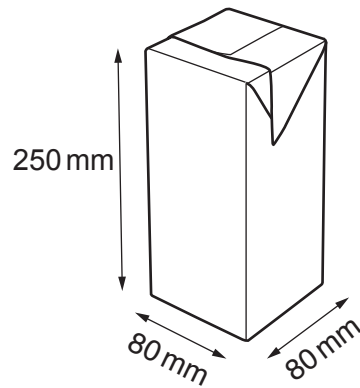

Fig. 2.3
(b) **Fig. 2.3** shows another fruit juice carton that is made by the manufacturer.
- (i) Calculate the volume of fruit juice the carton in **Fig. 2.3** could contain. Give your answer in cm^3 .
Given that 1 ml (millilitre) equals 1 cm^3 , state if the carton shown in **Fig. 2.3** would hold 1.5 or 2 litres of fruit juice.